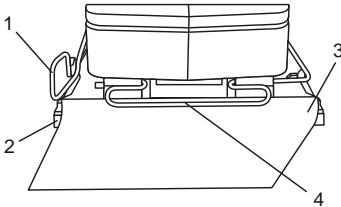

Fig. 4
1. Lift up and outward on the front and rear sandpaper clamp levers (1) at the front and rear of the backing pad (Fig. 4).
2. Insert one end of the ¼ sheet sandpaper (3) with grit side up into the open front sandpaper clamp (4), making sure it is aligned with the backing pad. Lift the sandpaper clamp lever up and inward to lock the sandpaper into the clamp.
1. Install the sandpaper as shown in Fig. 4 & 5.